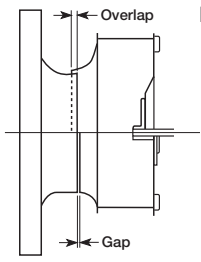

Figure 2
- 1. Rotate the wheel by hand to ensure that it does not rub and rotates freely. Movement may occur during shipment, and realignment may be necessary. Refer to Figure 2 and chart for proper overlap or gap dimensions.
4. Improper wheel alignment	4. Center wheel on inlet, Figure 2